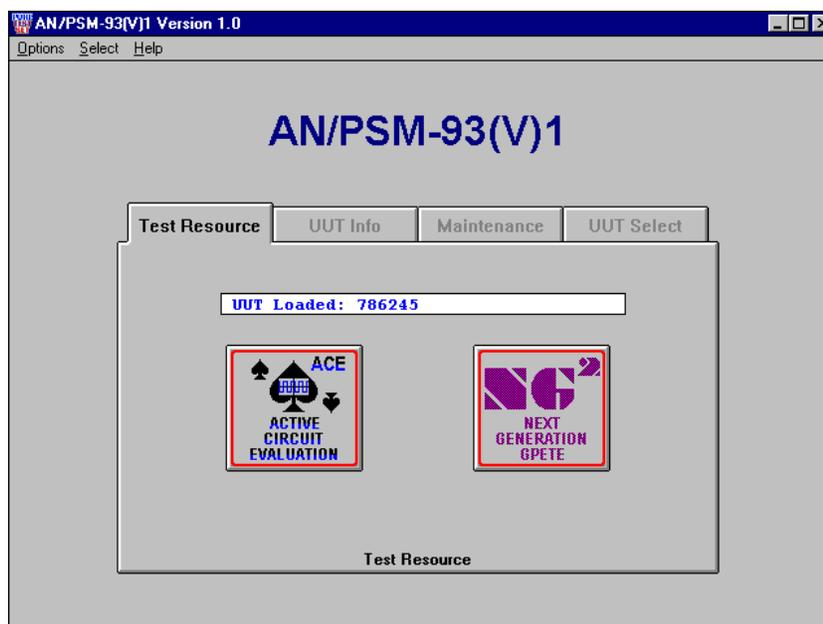

Figure 1. AN/PSM-93(V) Opening Screen
2.1 AN/PSM-93(V) Initialization. Once power is applied to the computer platform for the AN/PSM-93(V), the unit will undergo a series of system, and Random Access Memory (RAM) self-checks. If the computer successfully passes these checks, it will continue to process system configurations and set-up procedures through the CONFIG.SYS and the AUTOEXEC.BAT files. Finally, after entering Windows®, the computer will either display the AN/PSM-93(V) OPENING SCREEN, allowing the user access to various programs and information files, or the user will have to select the AN/PSM-93 software by clicking on the appropriate icon in Windows. Figure 1 below is the AN/PSM-93(V)'s Opening Screen. If the Opening Screen fails to appear, at the DOS prompt (C:\) type in **WIN**, then double-click on the AN/PSM-93(V) icon in the AN/PSM-93(V) folder in Windows (or on the Desktop in WIN '95). If the opening screen still doesn't appear, refer to Section 7 for Troubleshooting Tips.